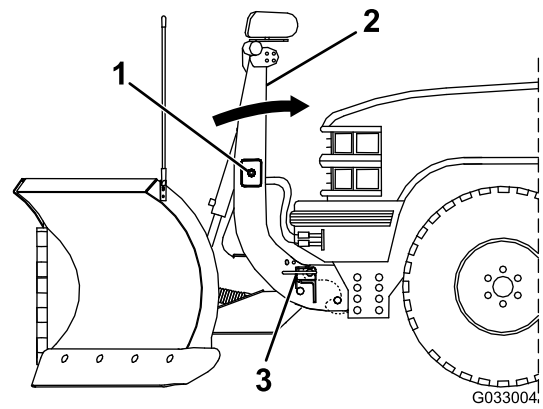

Figure 32
5. Push the SmartHitch2 switch on the side of the coupler tower upward and raise the tower until the coupler spring pins snap in (Figure 32).